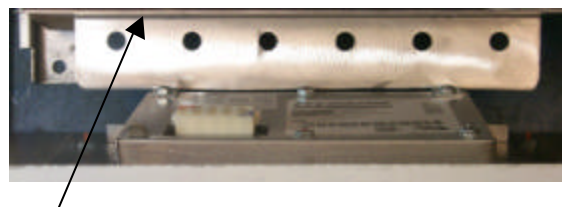

Fig: 10-4
8. Remove the heat shield from at the rear of the controller. **Fig: 10-4**